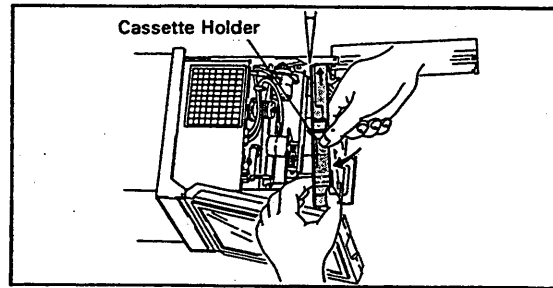

Figure 5-11-2.
- (7) Insert the right side of the new ribbon cassette into the cassette holder (Figure 5-11-2).